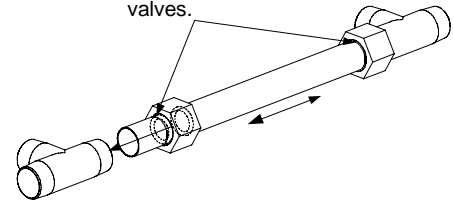

Figure 2. Slip-nut/drainpipe detail.
2. Remove door from fryers to be connected by lifting the door upward and removing the door pin from the bottom hinge. Remove slip-nuts from drain-tees on fryers being connected, lubricate O-rings with vegetable oil and install on drainpipe (Fig. 2). **Use care not to damage the slip-nut O-rings when installing slip-nut on drainpipe.** Insert the drainpipe into the fryer drain-tee (Fig. 3). Screw slip-nut onto the tee but do not tighten at this time. Position fryers being connected within 6 inches of each other, near the permanent installation area. Guide the drainpipe through the opposite fryer cabinet opening as the cabinets are positioned.